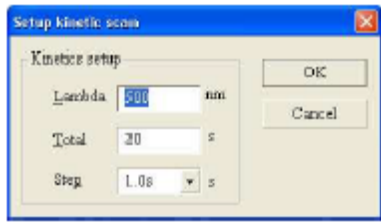

Fig. 4-39
6. Click  on the toolbar. A dialogue box will be displayed (fig 4-39). Key in the wavelength, total time (in seconds) and scan step in the above dialog box. The wavelength range should be within 190 to 1100 nm. The upper limit for total time is 100000 seconds. Seven scan intervals can be selected from 0.5S, 1S, 2S, 5S, 10S, 30S and 60S. click ok.